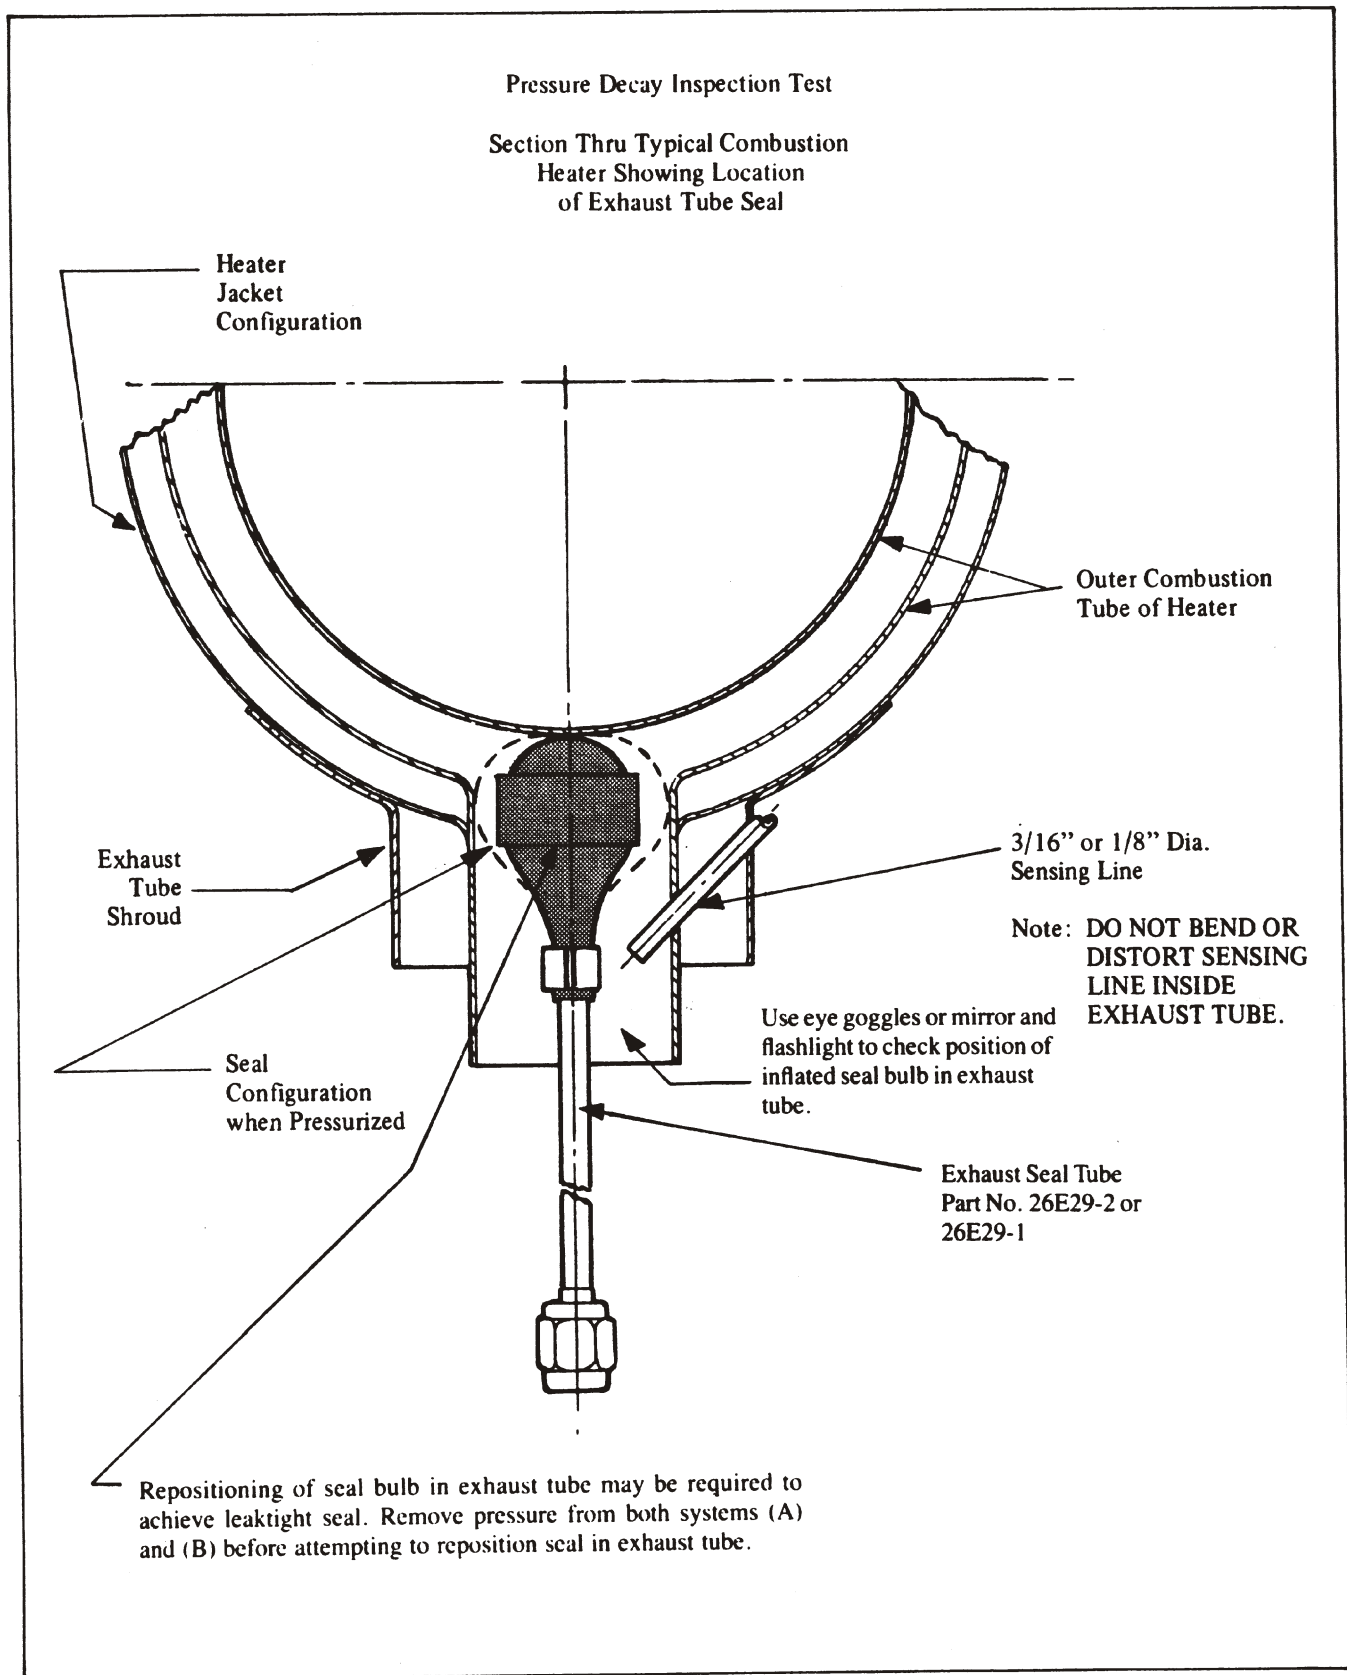

FIGURE 3-4 Exhaust Tube Seal Shown Installed Just Prior to Inflation
3.3.6 - Visually inspect exhaust tube of heater to determine the nominal diameter of exhaust at the area to be sealed. (See Figure 3-4) Check exhaust tube for sharp projections that could damage the rubber bulb of the exhaust seal tube during inflation. For exhaust tubes of 1½ inch nominal diameter, the Exhaust Seal Part No. 26E29-1 should be used. For 2 inch nominal diameter exhaust tubes use the Exhaust Seal Part No. 26E29-2. Products of combustion may need to be cleaned from inside of exhaust tube if the build-up is large enough to keep the bulb from sealing. Deposits may be removed by brushing or scraping.
VISUALLY INSPECT PER FIG. 3-4 TO BE SURE THAT RUBBER BULB PART OF EXHAUST SEAL TUBE IS INSERTED PAST THE 1/8 OR 3/16 INCH DIAMETER SENSING LINE THAT STICKS INTO THE EXHAUST TUBE.